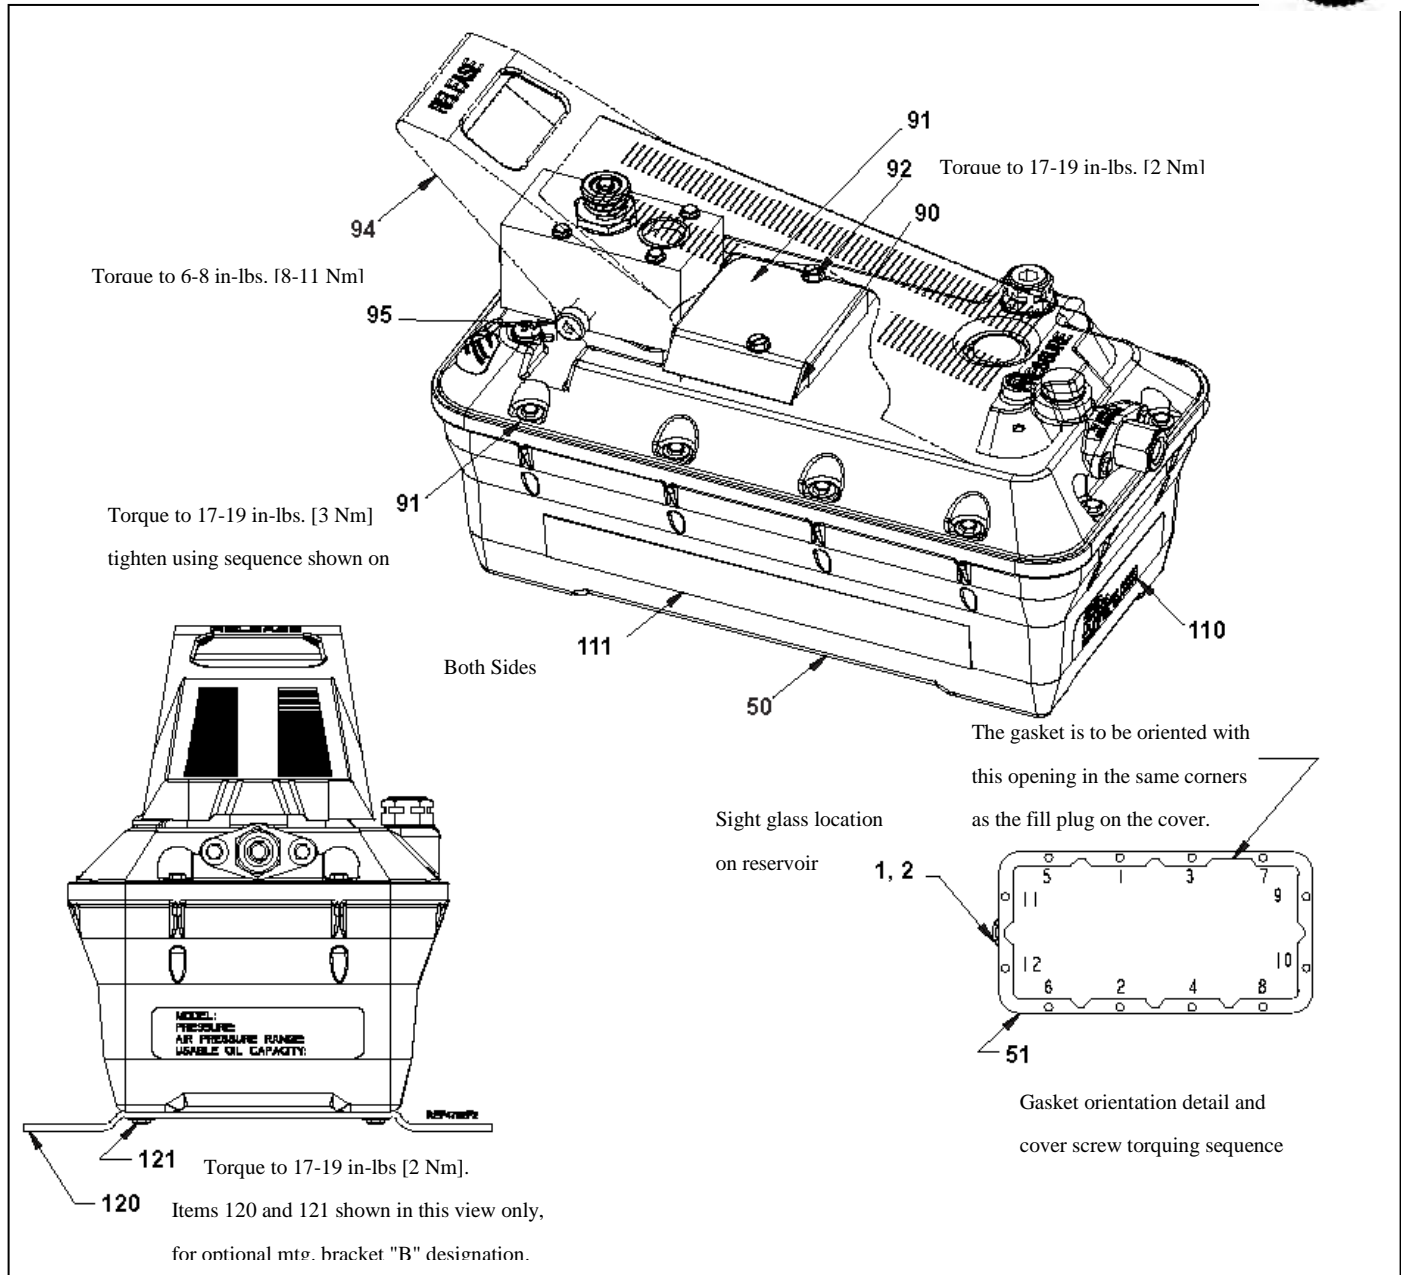

Figure 1
5. Replace pump cover. Tighten fasteners according to torquing sequence on Figure 1, page 2.
Repair Parts List for Figure 1